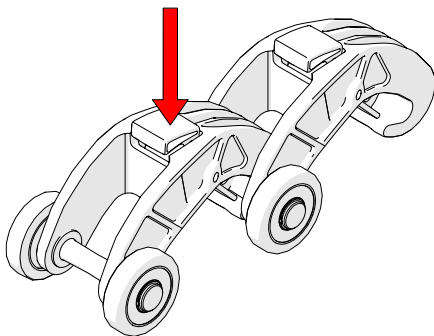

Fig. 72 - Press button
1. Press the button on the top of the QuickLink (*Fig. 72*).